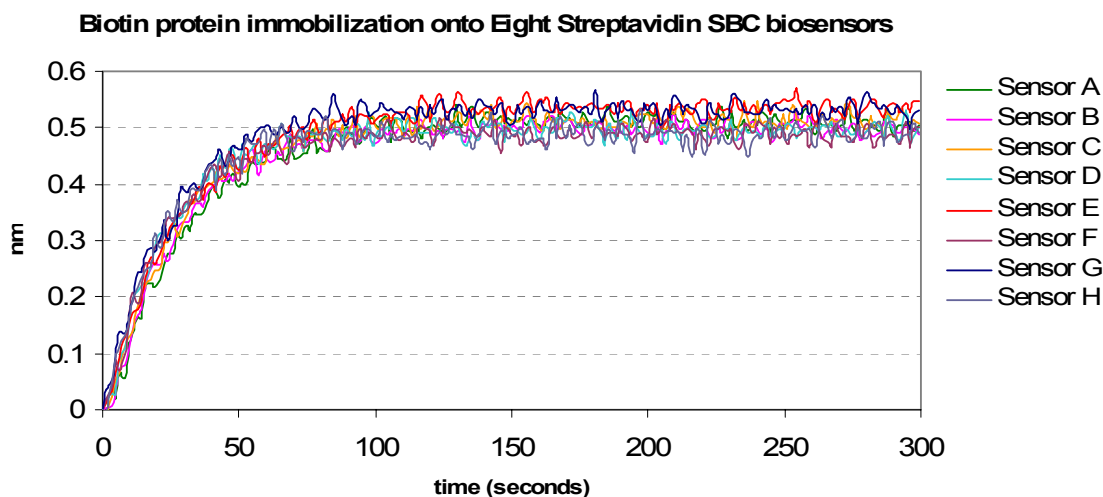

Figure 2: Example data for the parallel immobilization of a biotinylated protein onto 8 streptavidin SBC biosensors.
- 2.10. Biotinylated antibodies in PBS can be stored at 4C. See **Figure 2** for example immobilization of biotinylated antibody onto streptavidin SBC biosensor.